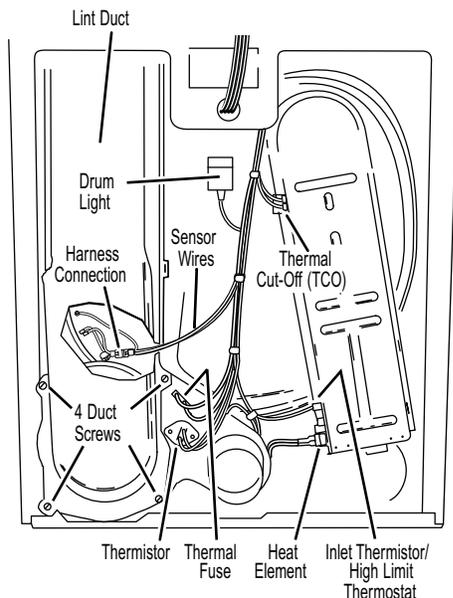

Figure 9. Thermal components, viewed from rear.
Locate the components using Figure 1 and Figure 9.
- Check wire connections at the machine control electronics and thermistor. See Accessing & Removing the Electronic Assemblies, and for thermistor location, see Figure 9.
- Check wire connections at the machine control electronics and inlet thermistor. See Accessing & Removing the Electronics Assemblies, and for inlet thermistor location see Figure 9.
- Check the resistance of the inlet thermistor. See Figure 9 for the location.
2. Access the thermal fuse by first removing the back panel. See Removing the Back Panel; and for thermal fuse location see Figure 9.
3. Using an ohmmeter, check the continuity across the thermal cut-off. See Figure 9 for location.